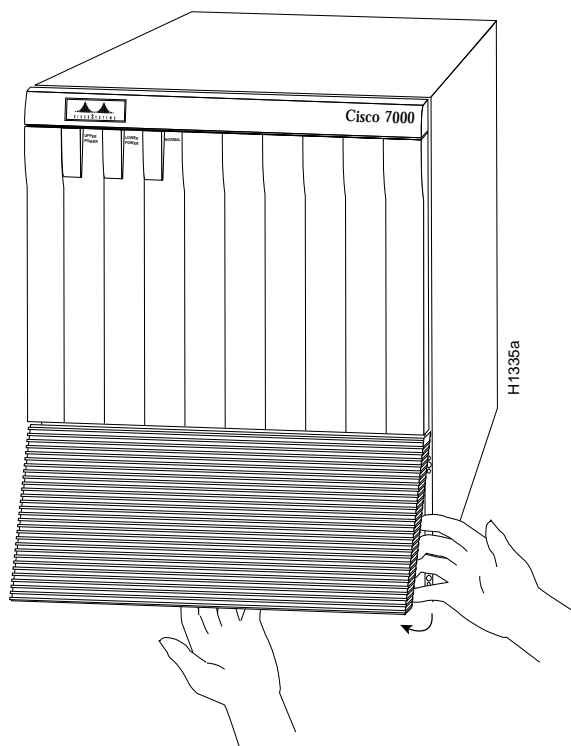

Figure 5 Removing the Bottom Front Panel
Step 2: Pull the bottom of the panel out about one inch, then place your fingers behind the sides of the panel and pull it off the chassis (see Figure 5).